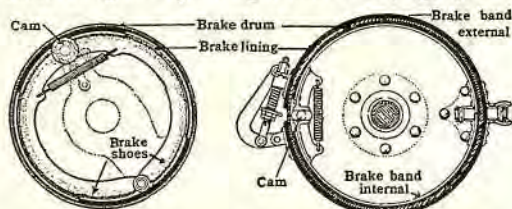

Fig. 2. (Left) An internal expanding brake where brake shoes are expanded within the brake drum by a cam.
The internal brake is of two general types: (1) those using expanding brake shoes (Fig. 2); (2) those using an expanding brake band (Fig. 3).
The internal brake using expanding metal brake shoes is shown in Fig. 2. Note the shoes are hinged. Brake shoes are generally lined with brake lining.
Operation of this internal shoe type of brake (Fig. 2) is by means of a cam which is usually connected
Operation of this internal brake band (Fig. 3) is by means of a cam similar in action, as explained in Fig. 2.